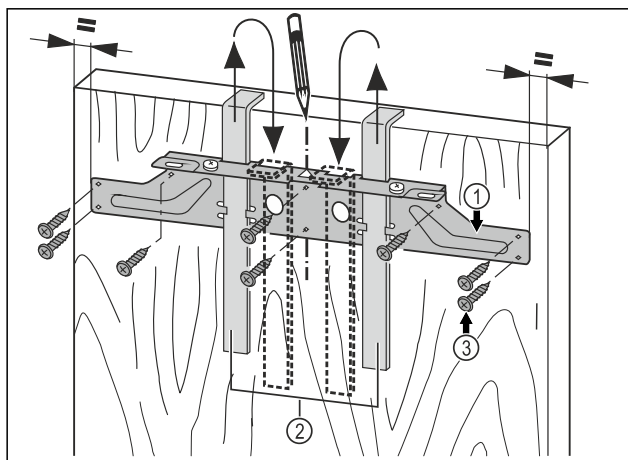

Fig. 21
- Hang the fastening crossbeam Fig. 21 (1) with the assembly aids Fig. 21 (2) on the inside of the unit door.
- Align the fastening crossbeam Fig. 21 (1) in the center of the door.
- Screw down the fastening crossbeam Fig. 21 (1) with at least 6 screws Fig. 21 (3).
- Screw down the fastening crossbeam Fig. 21 (1) to the edge with 4 screws Fig. 21 (3).
- Pull out the assembly aids Fig. 21 (2) upwards and insert them rotated into the adjacent openings.